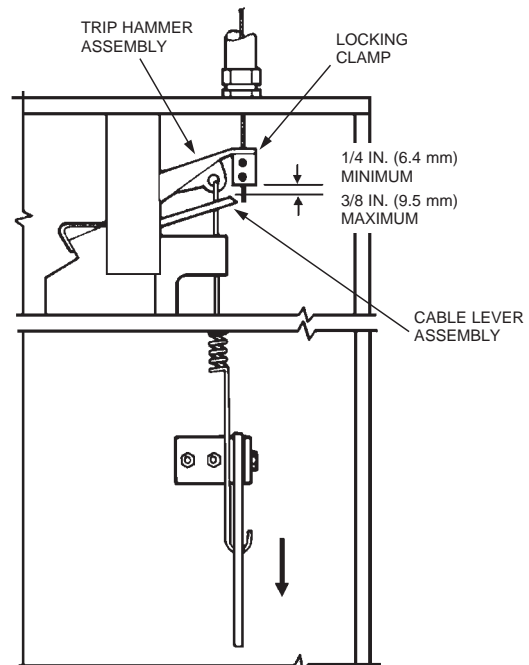

FIGURE 8-8
28. Inspect the base of the wire rope locking clamp to make certain that there is a minimum of 1/4 in. (6.4 mm) and a maximum of 3/8 in. (9.5 mm) clearance between the base of the trip hammer locking clamp assembly and the cable lever assembly. See Figure 8-8.